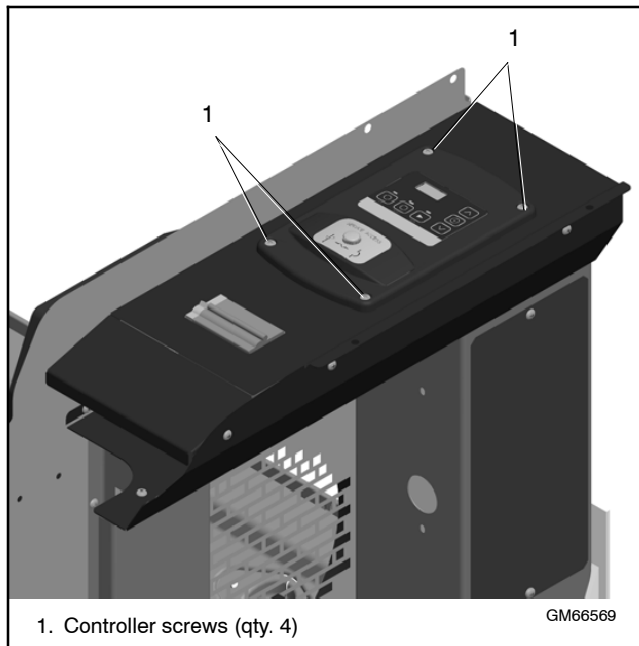

Figure 4-17 Controller Mounting Screws
8. Remove the four (4) screws securing the controller and *carefully* lift the controller. See Figure 4-17.